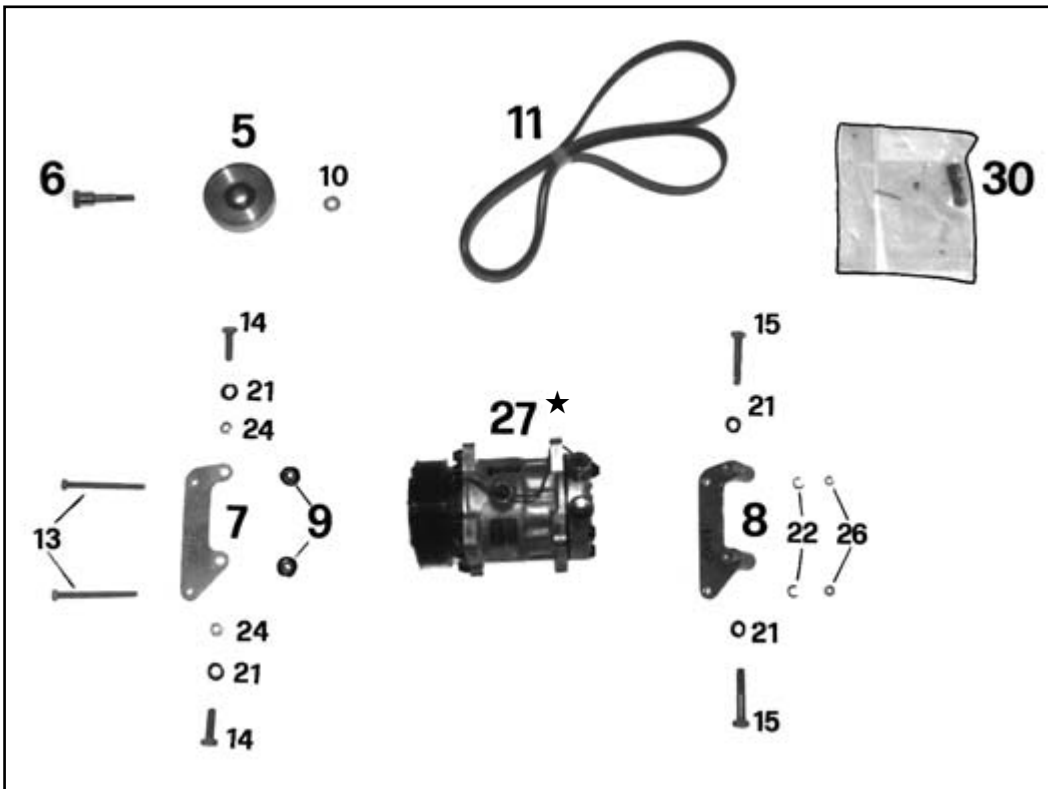

FIG. 1
Tutti i numeri presenti nel testo e nelle figure, indicano componenti forniti del condizionatore e vanno pertanto riferiti ai kit di fig. 1.
Tous les numéros du texte et des figures indiquent les composants fournis du conditionneur. Ils doivent par conséquent être référés aux kits des fig. 1.
All numbers quoted in the next and under the photos refer to the components supplied of the air conditioning unit. One must therefore refer to the kits shown in fig. 1. All screws and gas pipes fittings must be locked without exceeding the maximum value of the driving torques indicated in the following table, if not otherwise.
Alle Ziffern im Text und der Abbildung 1, beziehen sich auf vorhandene Bestandteile des Bausatzes.
**ELENCO MATERIALE FORNITO (FIG. 1)
LISTE DU MATERIEL FOURNI (FIG. 1) / LIST OF SUPPLIED MATERIALS (FIG. 1)
VERZEICHNIS DES GELIEFERTEN MATERIALS (ABB. 1) / LISTA MATERIAL ABASTECIDO (FIG. 1)**